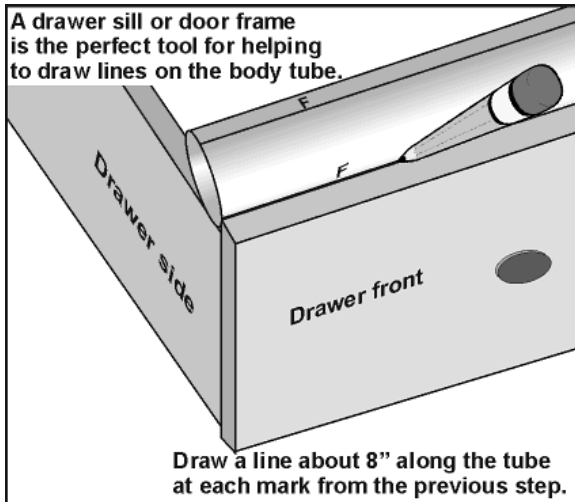

Figure 20
20. You now need to draw a line at all 4 marks on your body tube. **Figure 20** shows you how you can use a "drawer sill" to draw a straight line. Open a drawer and lay your body tube just inside the drawer front (this is the "sill"). Use the top of the drawer front as a guide to draw your straight line. You can also use the vertical edge of a door opening.